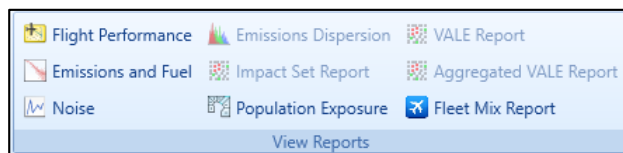

Figure 5-44 Ribbon Group – View Reports
3. The *Reports* ribbon group is displayed (Figure 5-44).
2. From the *View Reports* ribbon group, click *Flight Performance* (Figure 5-44). The graph is displayed.
2. From the *View Reports* ribbon group, click *Emissions and Fuel* (Figure 5-44) to open the report.
2. From the *View Reports* ribbon group, click *Noise* (Figure 5-44) to open the report.
2. From the *Reports* ribbon group, click *Emissions Dispersion* (Figure 5-44) to open the report.